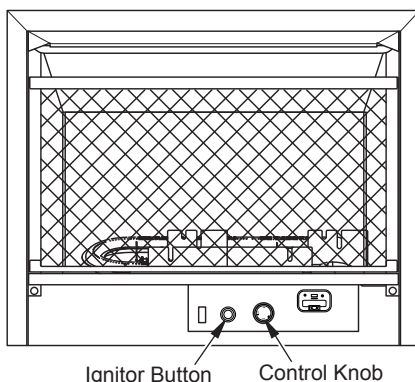

Figure 22 - Control Knob in the OFF Position
4. Wait five (5) minutes to clear out any gas. Then smell for gas around heater and near the floor. If you smell gas, STOP! Follow "B" in the safety information above. If you do not smell gas, go to the next step.
5. Turn control knob counterclockwise  to the PILOT position. Press in control knob for five (5) seconds (see Figure 22).